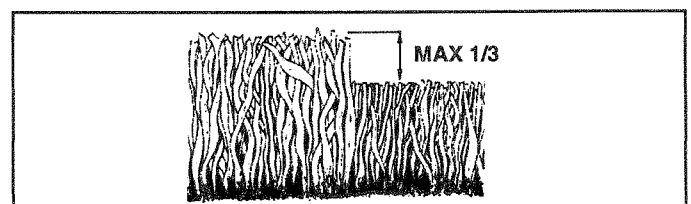

FIG. 5
- For best results, adjust the lawn mower cutting height so that the lawn mower cuts off only the top one-third of the grass blades (See Fig. 5). If the lawn is overgrown it will be necessary to raise the height of cut to reduce pushing effort and to keep from overloading the engine and leaving clumps of mulched grass. For extremely heavy mulching, reduce your width of cut by overlapping previously cut path and mow slowly.